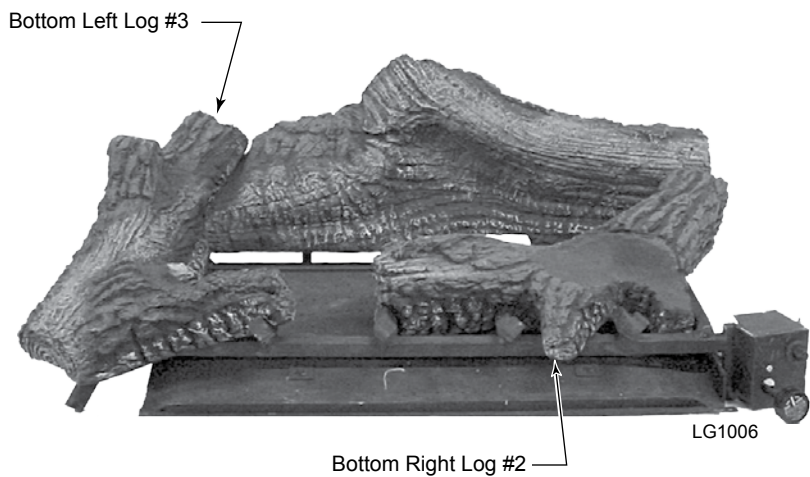

**Figure 45**
1. Place back log (#1) on back of base aligning two (2) pins on base with holes in bottom of log. *Figures 45 and 46*